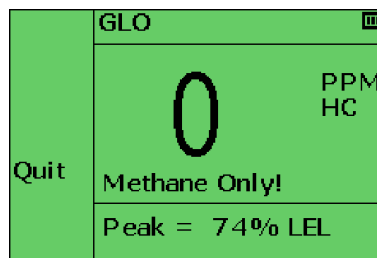

Figure 45: PGT Results
5. After sampling is completed, the Peak reading is displayed as shown in Figure 45: PGT Results.